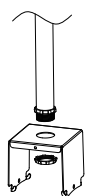

Figure 2
Step1.Mount the bracket on 3/4"NPT (Figure 2);